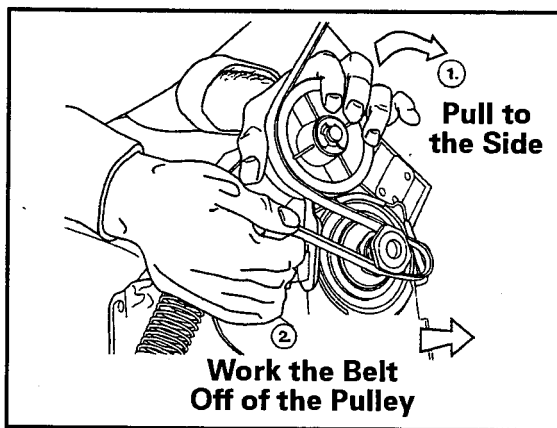

Figure 6-9
5. Grasp the idler pulley in left hand, pull idler upward and to the left. **Note:** *There is a built-in stop to prevent overstressing of the idler arm spring.* Slip belt off the motor pulley, (See Figure 6-9).